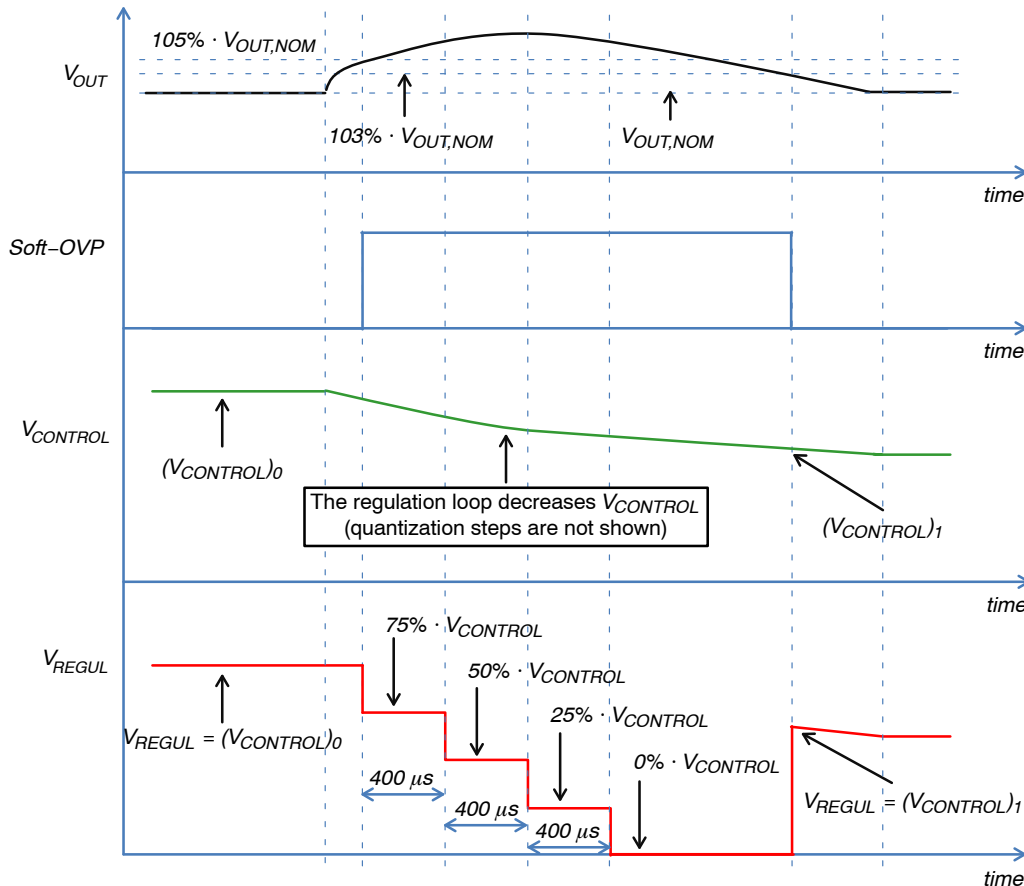

Figure 14. Soft-OVP
- Then, enters a soft-stop sequence to gradually reduce the line current and thus minimize the risk of audible noise. If the output voltage reaches the soft-OVP level (105%  $V_{out,nom}$ ), the protection trips and the 4-step stop illustrated by Figure 14 takes place.